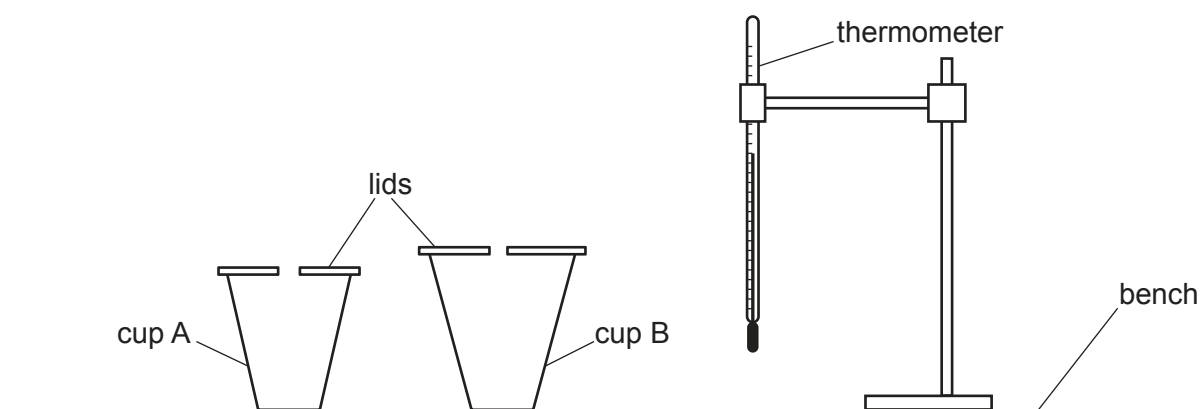

Fig. 2.1
2. The thermometer, clamp, boss and stand must be set up for candidates as shown in Fig. 2.1. The thermometer bulb must be well below the 75 cm^3 level of the cups. Candidates must be able easily and safely to read temperatures up to 100°C and to move the thermometer in and out of the cups.
Check that the apparatus is intact and is arranged as in Fig. 2.1.